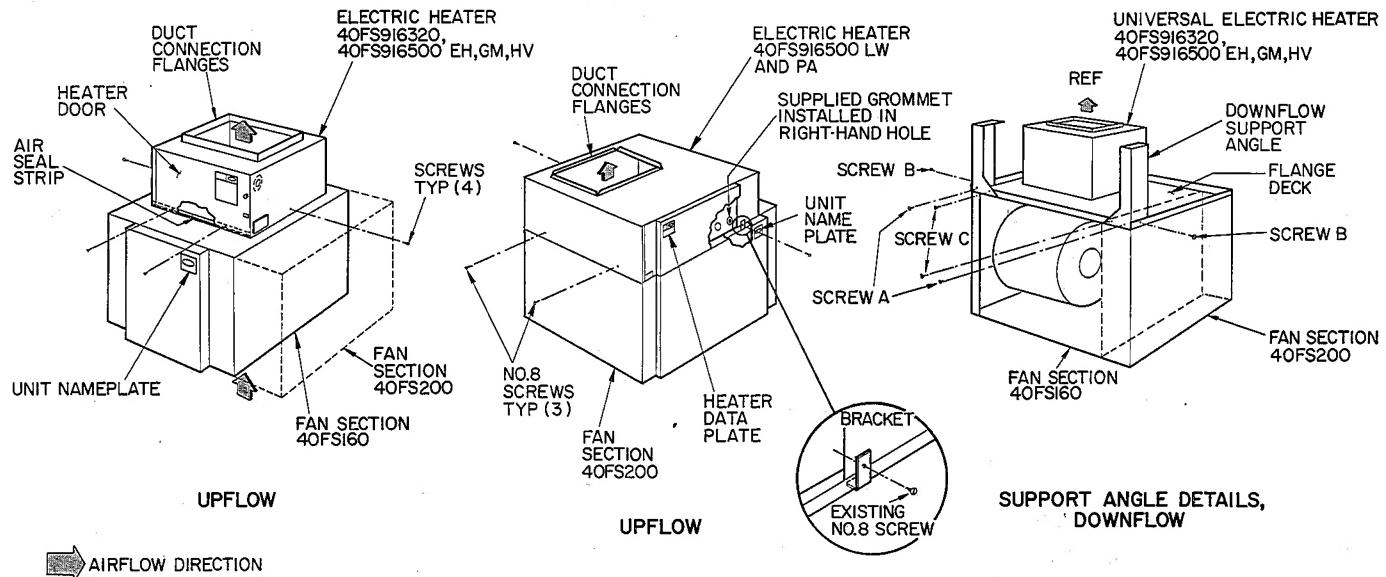
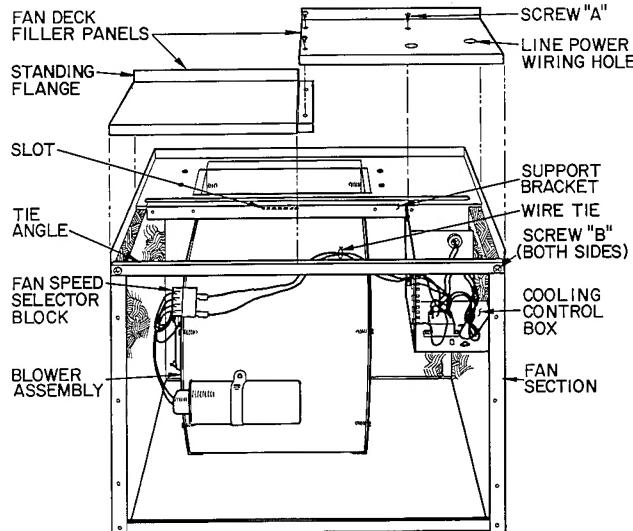

Fig. 3 — Heating Unit Assembly Details
Fig. 11 — Fan Section 40FS; Interior Details
Electric Heater Models 40FS916320, 40FS916330 and 40FS916500EH, GM and HV — Position fan section for upflow air direction. Mount heater on fan section supply air duct connection flanges, and attach with 4 sheet metal screws. Four clearance holes for screws, provided on heater cabinet, can be used as template for drilling engagement holes in duct flanges as required. See Fig. 3. Assembly may be aided by first removing top flange deck from fan section (2 screws hold flange deck in place). Assembled heater and flange deck can then be resecured to fan section. Reposition plug buttons
Electric Heater Models 40FS916500LW, and PA used with Fan Sections 40FS200 and 40FS220 — Position fan section for upflow air direction. Assemble flange deck according to instructions shipped with accessory. Mount heater on fan section supply air duct connection flanges; attach with 3 no. 8-32 self-threading screws and bracket provided as shown in Fig. 3.
1. Position fan-heater combination for upflow arrangement (Fig. 3). Remove screws (4) securing fan cover; remove and set aside cover.
2. Remove tie angle. Save screws "A" (2).
3. Install accessory fan deck filler panels as described in instructions shipped with accessory. Assembly is similar to filler panels on accessory cooling control kit. See Step 6 and Fig. 11.
4. Position support angles on fan section as shown in Fig. 11. Reinstall screws "A" securing support angles and flange deck to fan wrapper.
Step 6 — Install Accessory Cooling Control Kit on 208/230-volt cooling only applications. As indicated on page 3, kit is not required on units equipped with electric heater. Remove fan section access panel; unpack and install control kit as shown in Fig. 11 as follows:
Step 11 — Set Fan Motor Speed(s) — High, medium or low fan speed leads are provided on motor for choice of fan speeds. Motor leads are factory connected to fan speed selector block located on fan housing (Fig. 11 and 13). Selector block terminal 1 is high fan speed, terminal 2 is medium fan speed and terminal 3 is low fan speed. Model 40FS075 utilizes terminals 1 and 2 only.